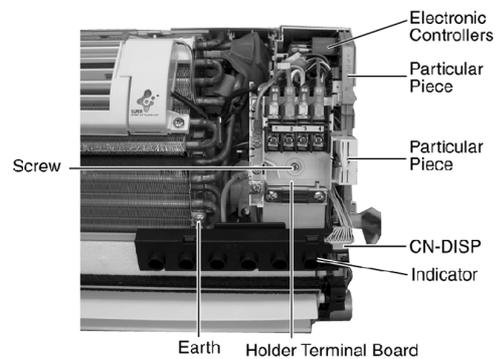

Fig. 3
1. The Electronic Controller, a Signal Receiver and an Indicator (Fig. 3) can be seen by the below steps:
- Release the 2 Particular Piece. (Fig. 3)
- Release the earth wire screw. (Fig. 3)
- Release the screw holder terminal board. (Fig. 3)